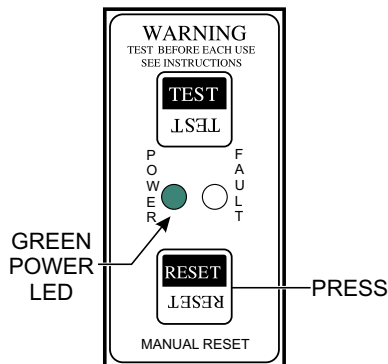

Figure 42. GFCI Module (Green LED ON Reset)
8. To restore power, press the RESET button (Figure 42) on the GFCI module and verify that the **red** FAULT LED turns **OFF** and the green POWER LED should turn **ON**